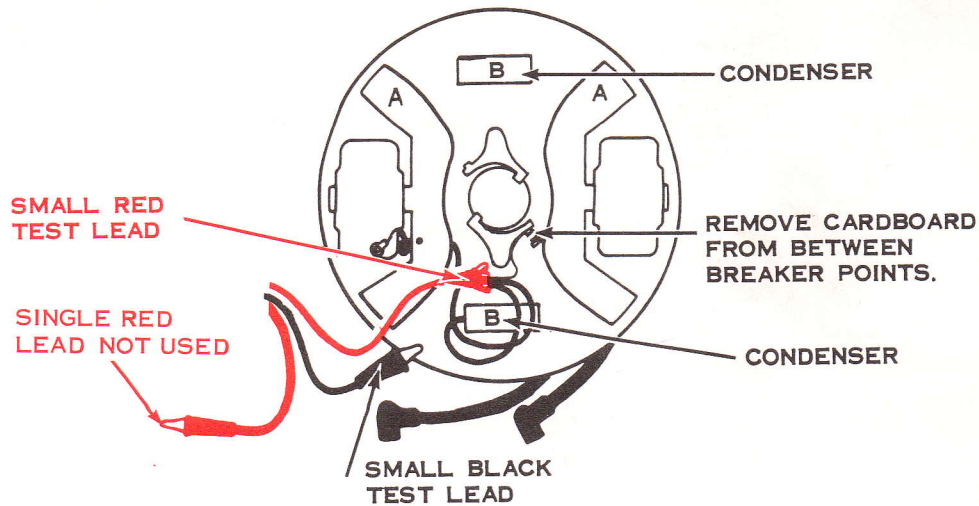

Figure 16
2. **Connect small red test lead to body of condenser.** Point B see illustration Fig. 16.